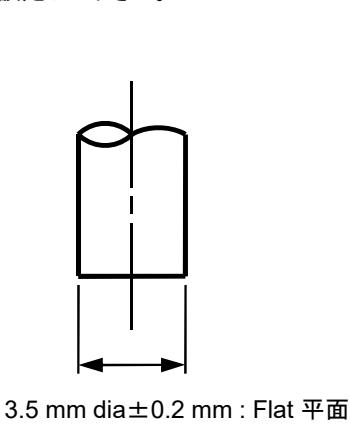

Fig. 1
(2) We recommend the shape indicated in Fig.1 regarding the operation section. Concerning the angle,